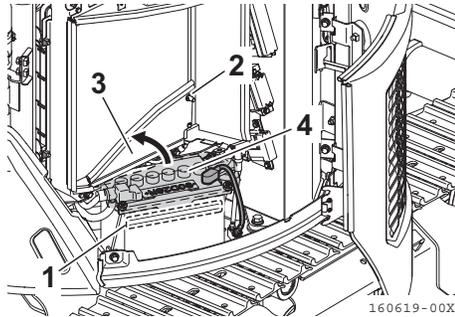

Fig. 3-14
2. Check the electrolyte level of the battery (**Fig. 3-14, 1**).
If the level is lower than the lower limit mark, loosen the bolt (**Fig. 3-14, 2**), open the battery cover (**Fig. 3-14, 3**), and fix it
with stopper. Then, open the battery cap (Fig. 3-14, 4) and replenish the electrolyte.
3. Close the battery cover (Fig. 3-14, 3) and fix it with the bolt (Fig. 3-14, 2), then close the hoods.